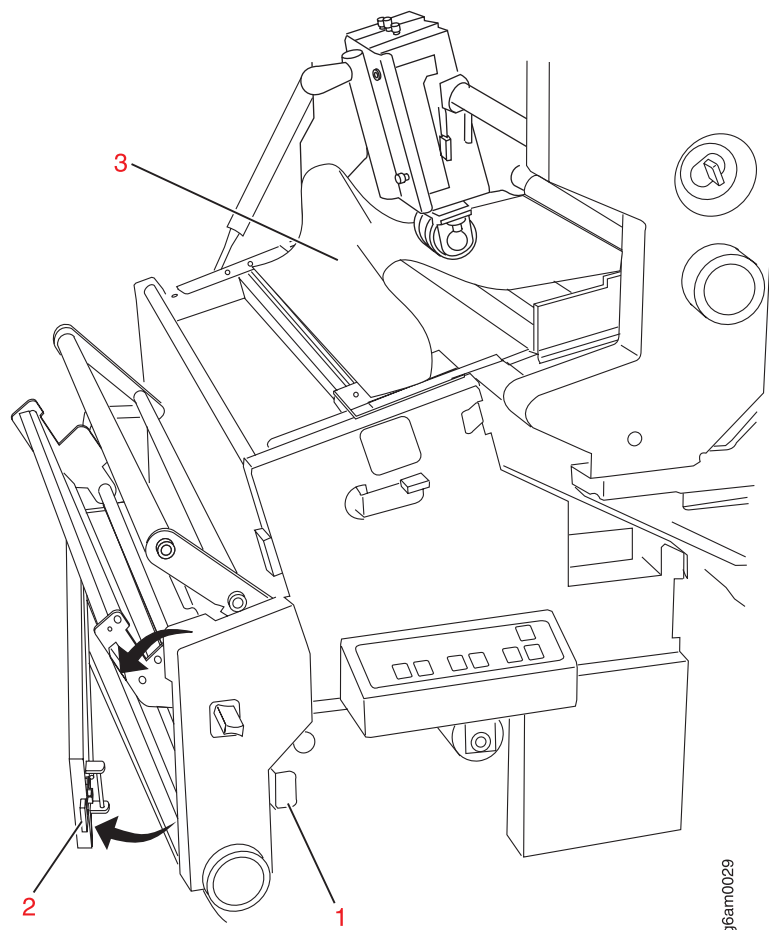

Figure 58. Tension gate
13. Open the tension gate by pushing in (1) and pulling out on (2) (see Figure 58).